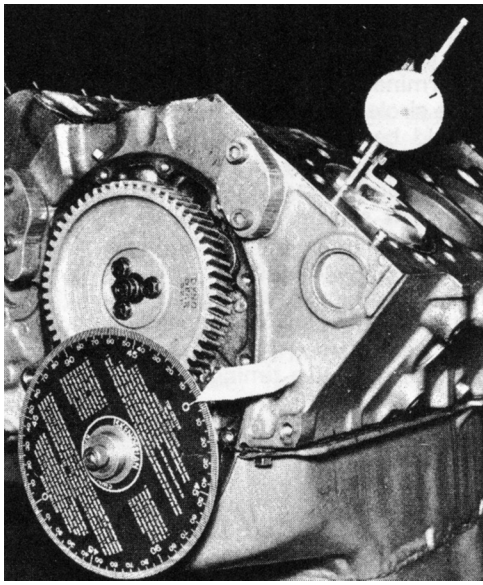

Figure 6
2. Mount a dial indicator securely to the cylinder block. Now adjust dial so that at maximum piston rise the indicator sweep hand travels through approximately .300 of movement. The dial indicator contact point should rest on the center of the piston as shown in Figure 6.